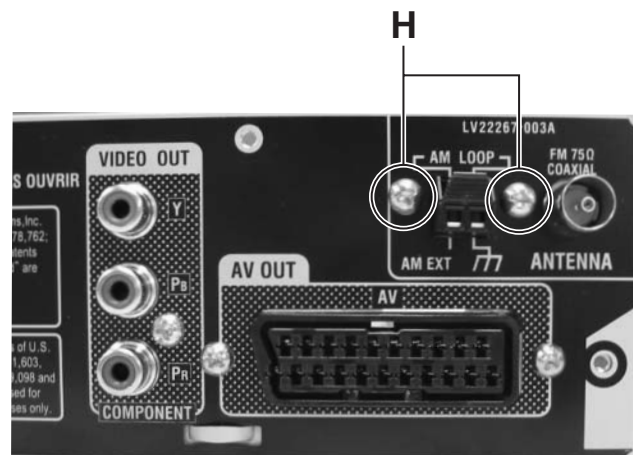

Fig.11
- (2) Remove the two screws **H** attaching the tuner pack from rear panel. (See Fig.11)